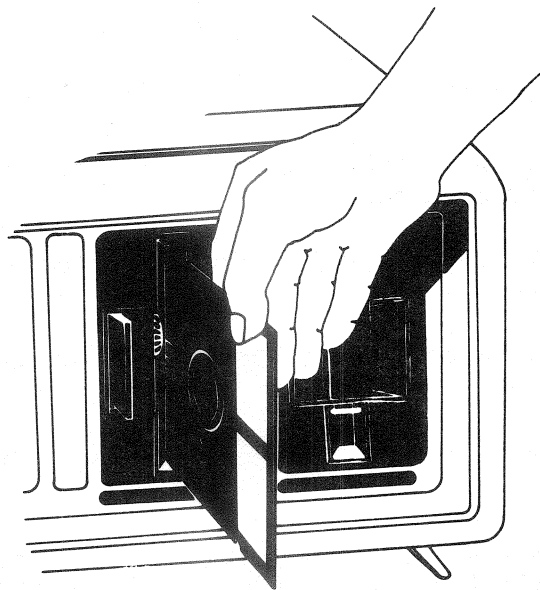

Figure 5-3. Proper Installation Method
Step 2 - Pick up the diskette and hold it so that your right thumb covers the manufacturer's label. (See Figure 5-3.)